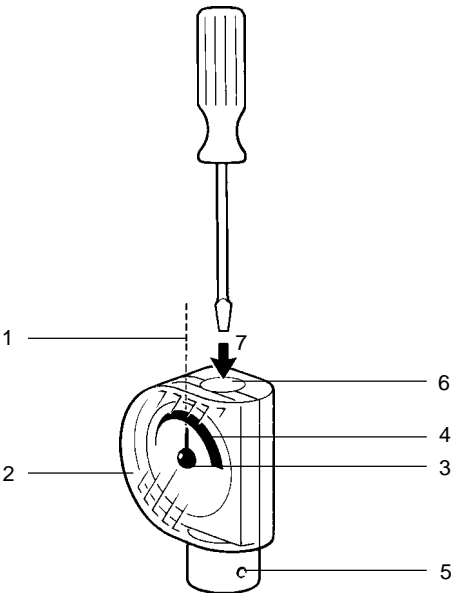
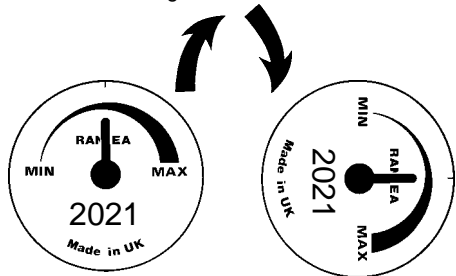

Fig. 7 Adjustment head
Fig 8
1. Rotation of temperature scale (see Fig. 8)
In some instances it may be necessary to rotate the scale so the set temperature may be more easily read. In such cases the following procedure should be adopted and references made to figure 7 and figure 8.
1. Remove tamper proof plug (Fig. 7, Item 6) and use a suitable screwdriver to set indicator (Fig. 7, Item 3) to the midway point (Fig. 7, Item 1)
2. Remove transparent cover (Fig. 7 Item 2)
3. Remove indicator (Fig. 7, Item 3)
4. Remove the scale (Fig. 7, Item 4) from the indicator head and relocate to desired position.
5. Replace indicator (Fig. 7, Item 3) to the midway point of the scale (Fig. 7, Item 1)
6. Replace transparent cover (Fig. 7, Item 2)
A dial head Fig. 7 is provided at the immersion sensor, which enables the set temperature to be raised by 5°C (10°F) or lowered by 10°C (20°F). To make any adjustments a suitably sized screw driver is engaged in the adjustment drive (Fig. 7, Item 7) on the end of the indicator dial. Turning clockwise will lower the temperature, anti-clockwise will increase it.